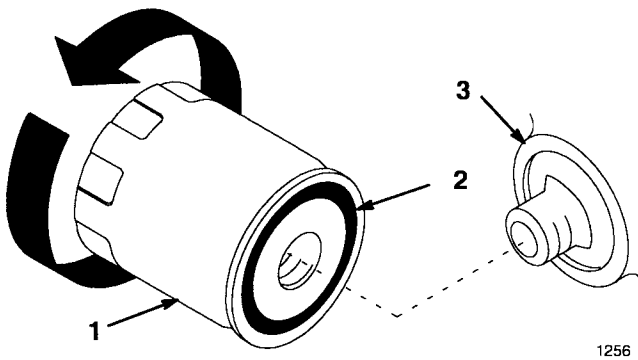

Figure 25
2. Remove the old filter and wipe the filter adapter (Fig. 25) gasket surface.
3. Apply a thin coat of new oil to the rubber gasket on the replacement filter (Fig. 25).
4. Install the replacement oil filter to the filter adapter. Turn the oil filter clockwise until the rubber gasket contacts the filter adapter, then tighten the filter an additional 1/2 turn (Fig. 25).